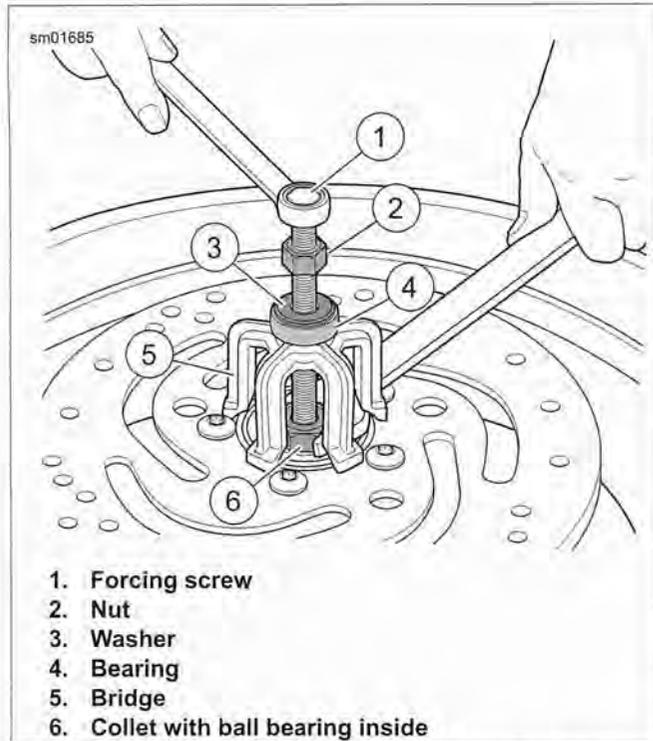
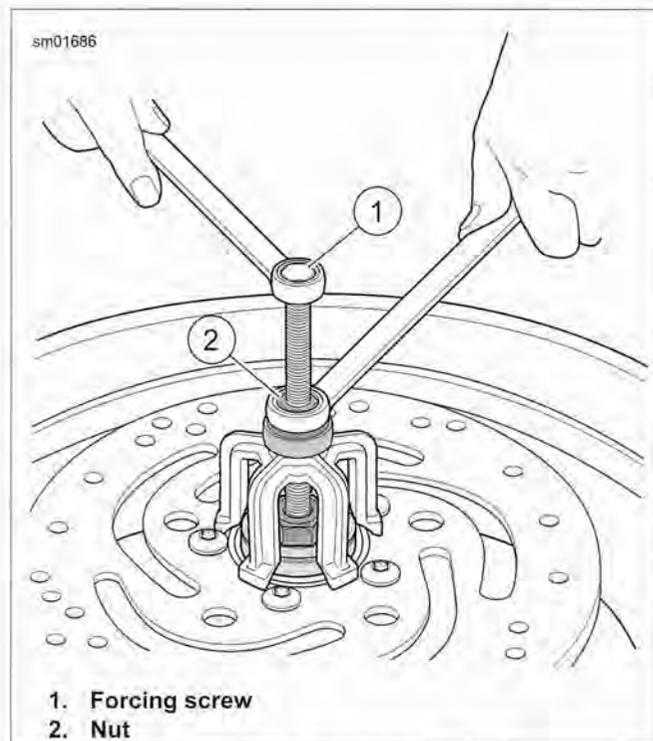

Figure 2-15. Wheel Bearing Removal Tool
Figure 2-16. Removing Bearing
2. See Figure 2-15. Obtain WHEEL BEARING INSTALLER/REMOVER (Part No. HD-44060-C) and assemble.
- a. Sparingly apply graphite lubricant to threads of forcing screw (1) for prolonged service life and smooth operation.
- b. Install nut (2), washer (3) and bearing (4) on screw. Insert assembly through hole in bridge (5).
- c. Drop ball bearing inside collet (6). Fasten collet and ball bearing to forcing screw.
4. See Figure 2-16. When expanded collet has gripped bearing edges, hold end of forcing screw (1) and turn the nut (2) to remove bearing from wheel.